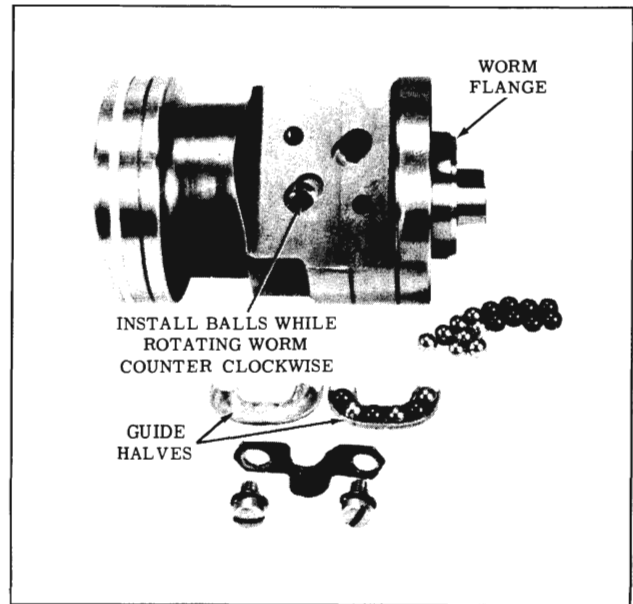

Fig. 4-269 Installing Balls in Rack-Piston
3. Turn the worm until the worm groove is aligned with the lower ball return guide hole. (Fig. 4-269)